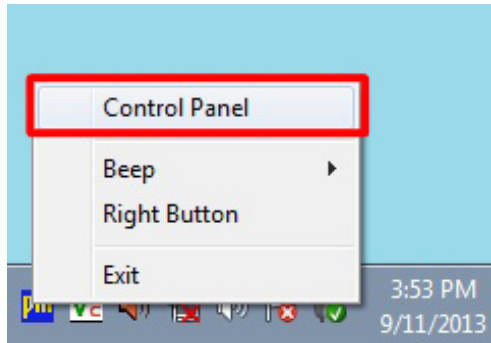

Figure 6-35: Select Control Panel
Step 2: Click **Control Panel** from the menu (**Figure 6-35**).